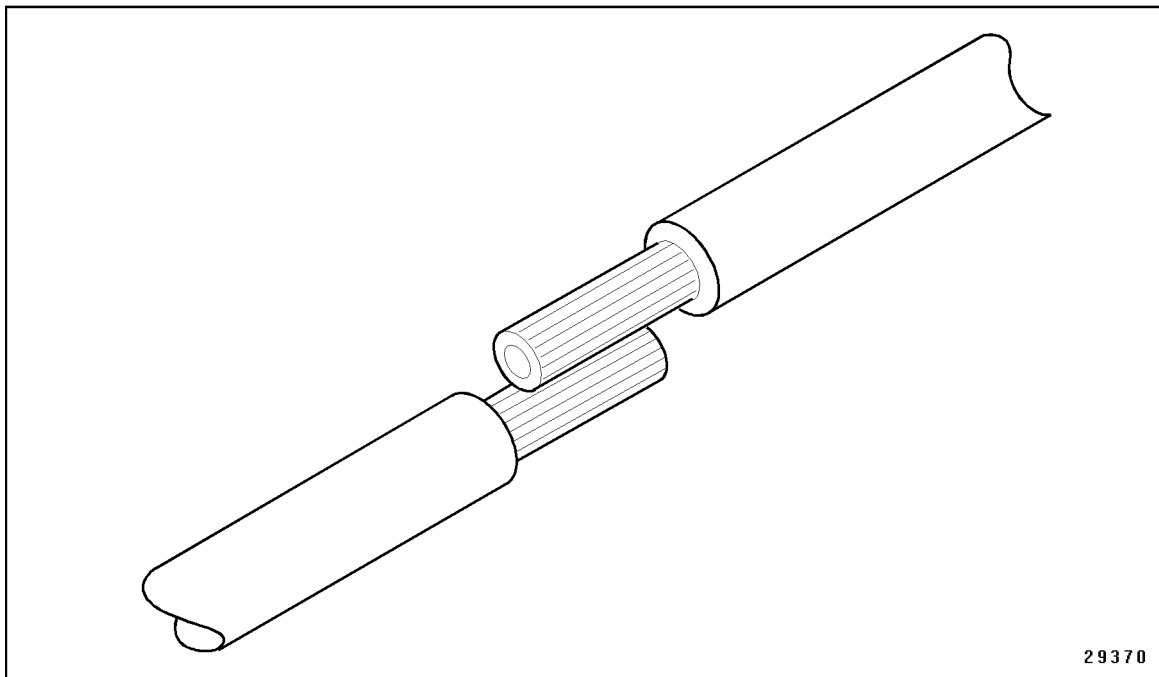

Figure 3-59 Positioning the Leads
1. Position the leads, so one overlaps the other. See Figure 3-59.